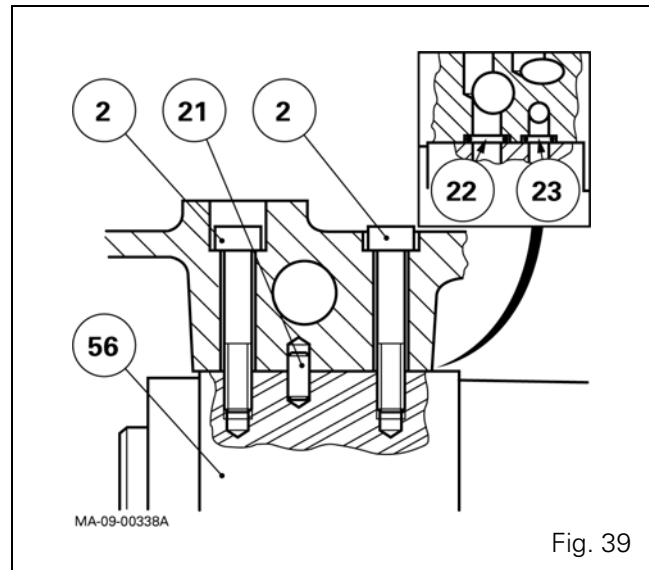

Fig. 39
Removal (Fig. 39)
92. Refit the pump on the locating pins (Fig. 39).
93. Smear the screws (2) with Loctite 221 (Fig. 39) and tighten to a torque of 10 -12 Nm.